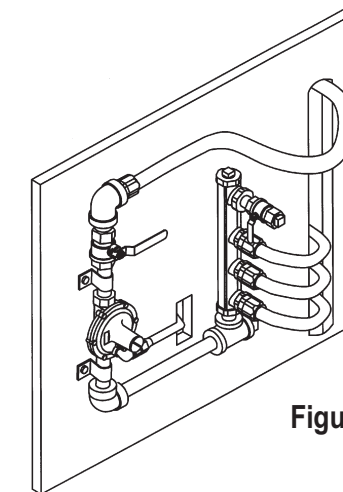

Figure 4.35
- A Manifold Station utilizing a pounds to inch regulator (figure 4.35) shall be installed in an accessible location to allow access to the regulator for inspection, service and replacement if required.